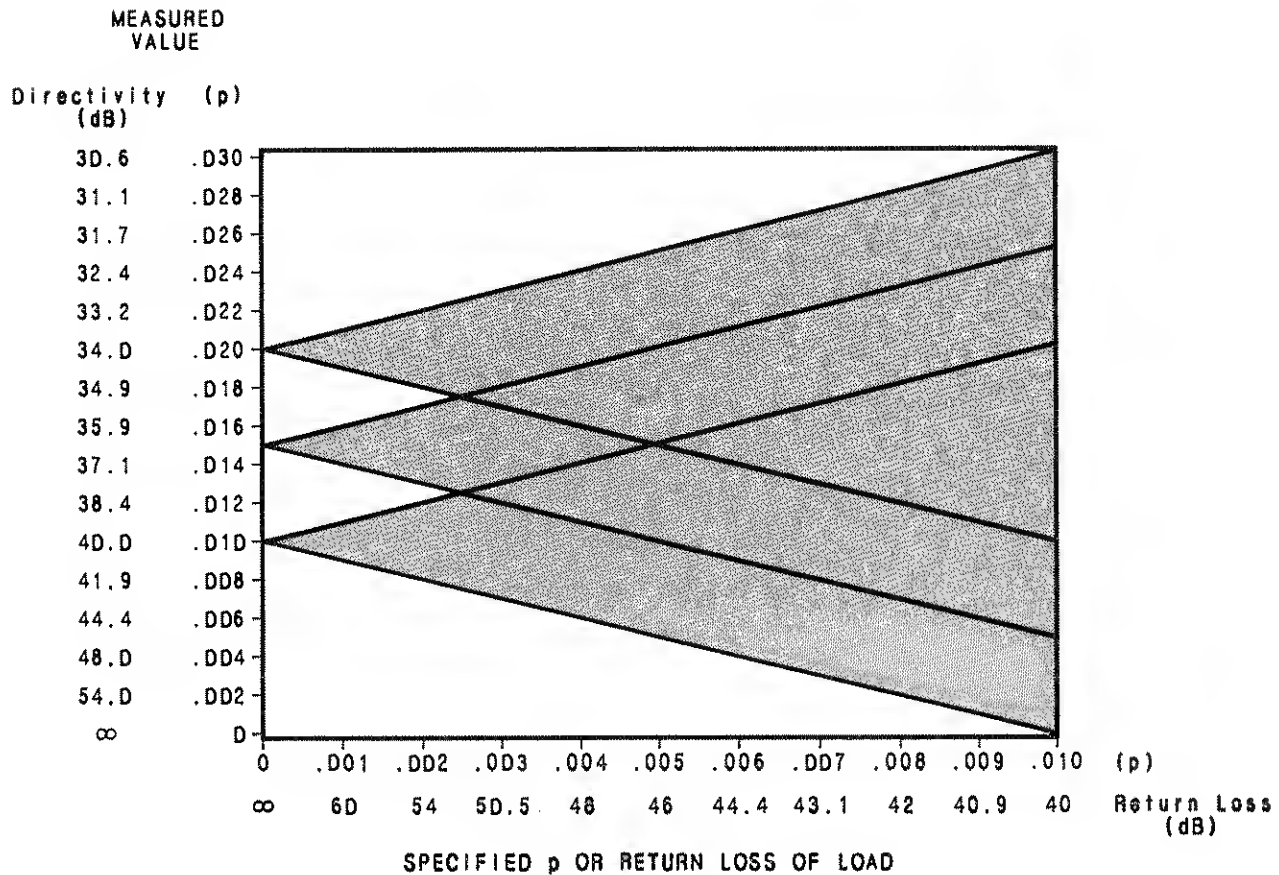

Figure 4-2. Probable Range of Measurable Directivity Values
6. Refer to Figure 4-2. The shaded areas in this figure represent the probable range of measurable values for each of the three specified directivity values: 34 dB, 36 dB and 40 dB. On the horizontal axis, locate the fixed load's reflection coefficient or its specified return loss (convert from SWR if necessary). Move up from this point to the upper limit of the shaded area between the appropriate diagonal lines. Allowing for load error, any directivity measurement that falls below this upper limit indicates with 90% probability that the HP 85027 is within specifications. If
15. Although the signal separation procedure removes reflections of the load itself, the mismatch of the sliding load connector and airline introduces reflections and uncertainties. To estimate these uncertainties, refer to Figure 4-2. Locate the specified return loss of the sliding load airline and connector on the horizontal axis (convert from SWR). Move up from this point to the upper limit of the bridge specified directivity corresponding to the sliding load's return loss for this frequency range. Enter this value in Table 4-1.